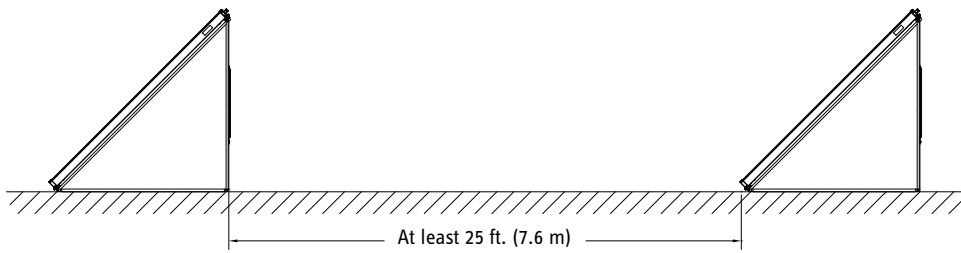

Figure 5.2.10: Recommended row spacing for 45° vertical arrays for latitudes up to 50°.
- at least 25 ft. (7.6 m) for vertical installation, as shown in **Figure 5.2.10**; or